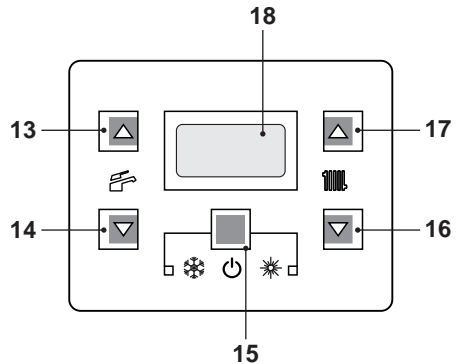

Fig. 7.6
- Press the 15 key for 2 seconds until both and symbols appear on the display Fig. 7.6.
- Switch off the boiler by pressing the 15 (Fig. 7.6) key for 2 seconds until the **00** symbol appears on the LCD display (Fig. 7.5).
Press the reset key on the boiler control panel 15 (Fig. 7.6) to reset its functioning.